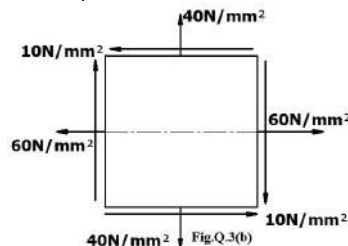

Figure 10
8. The plane element is subjected to stresses as shown in the **Figure 10**. Determine principal stresses. Maximum shear stresses and their planes. Sketch the plane determined